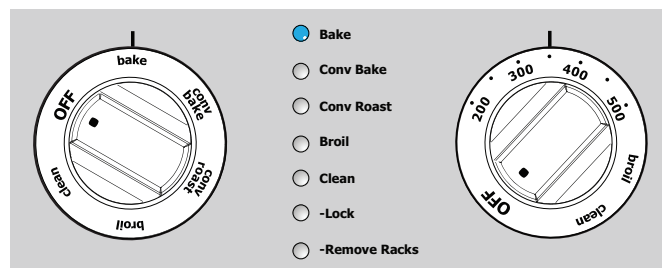

Figure 15: Selecting the bake function
2. Turn the function dial to **bake**. The Bake indicator light will flash (Figure 15).